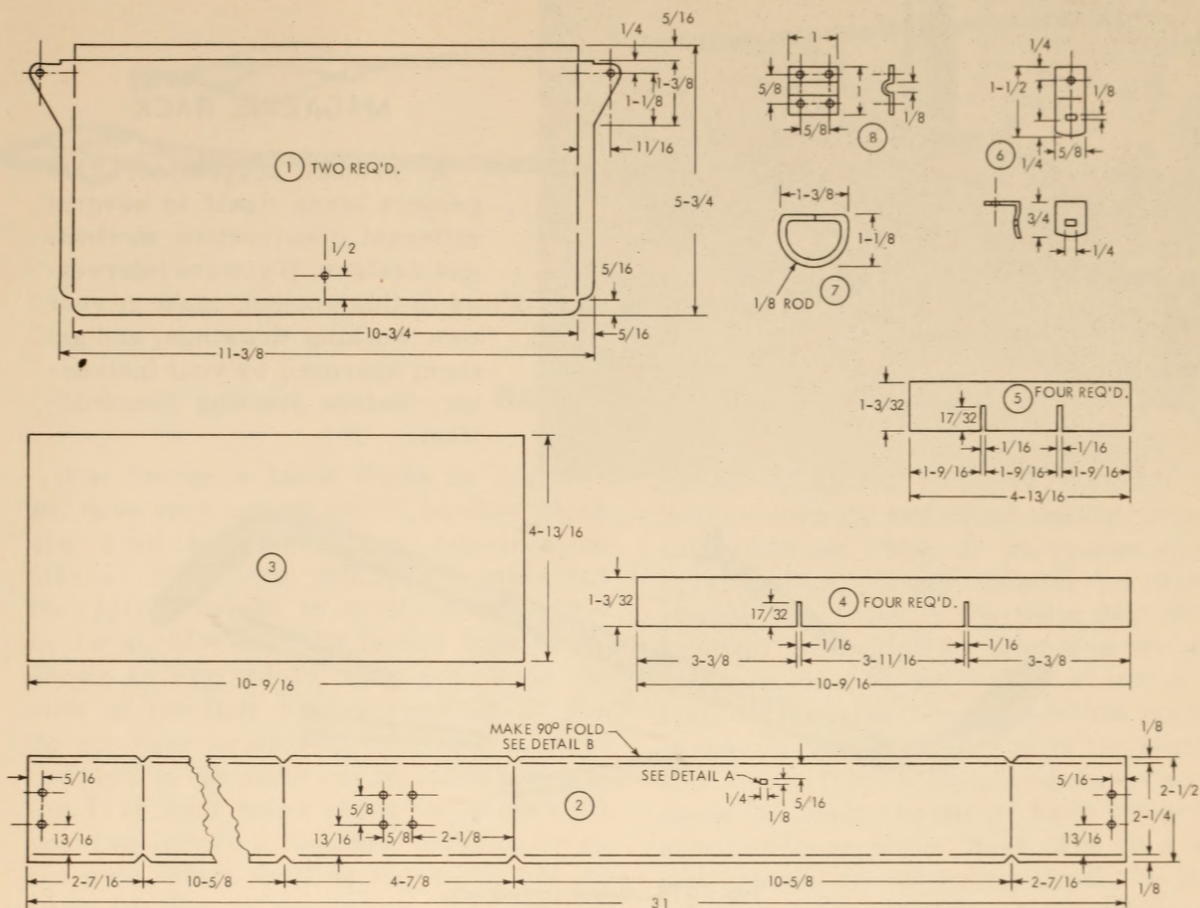

Fig. 10-16. Fishing tackle box, working drawing.
The handy box, Fig. 10-15, can be used to carry your favorite lures, hooks, and sinkers. This unique box which has two lids is constructed of leather grain pattern aluminum. The hinge arrangement is very simple and the box is held together with only four rivets at one end. Cut out all of the parts, and drill the holes for the rivets except the two holes in each end of the box where the hinge rivets are to be located for the two lids. These holes will be drilled later. Cut and form the catches for the hasps. Make the 90 deg. bend along the two edges of the box. Bend the corners of the box to form a rectangular shape. Put the pieces which form the compartments, Nos. (4) and (5), Fig. 10-16, together. The slots in these pieces can